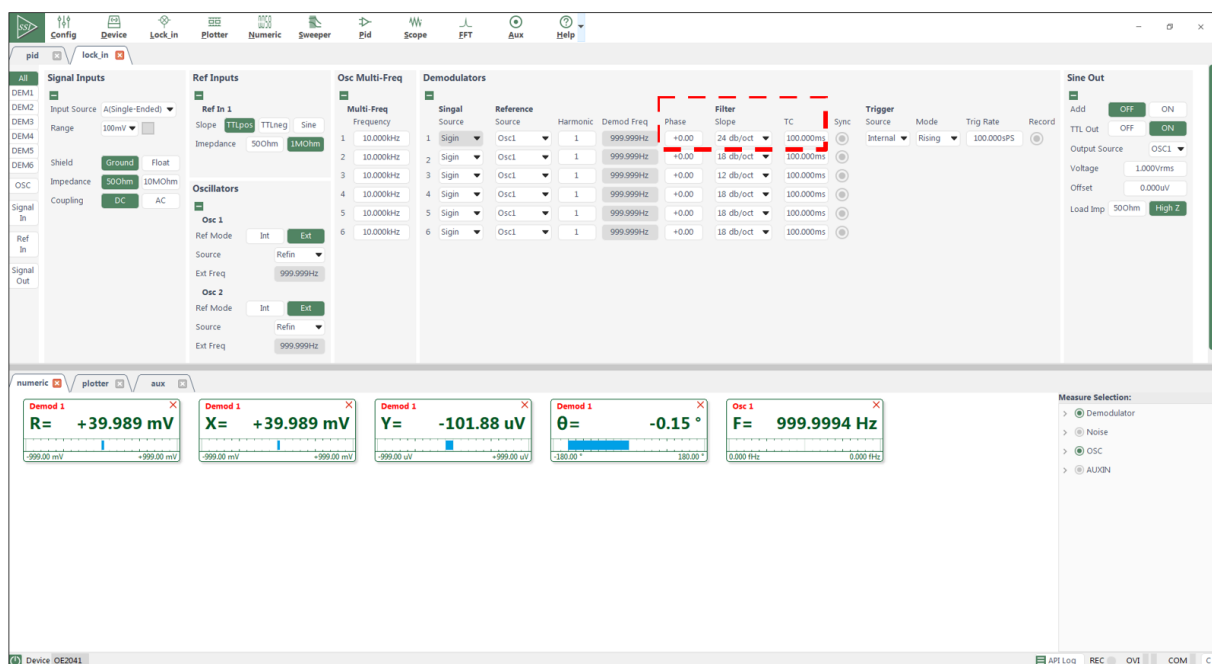
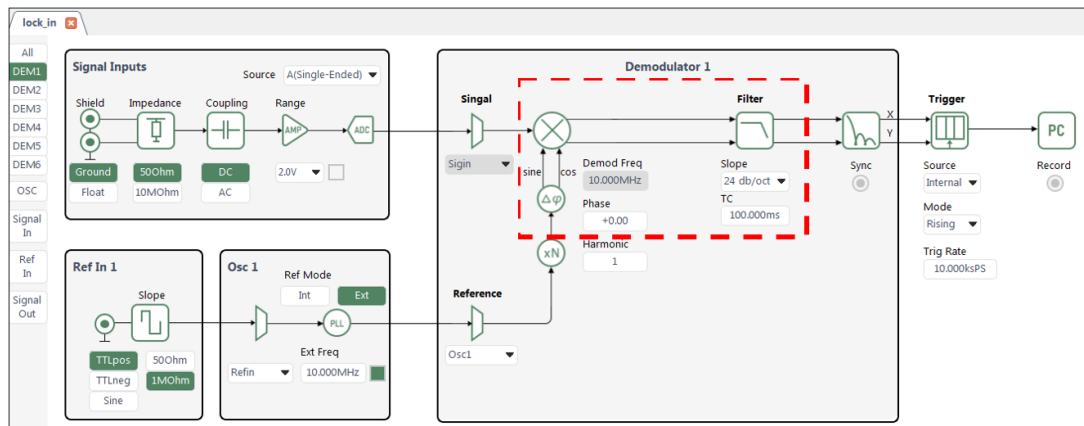

Figure 35. Filter Configuration
Figure 36. Filter Configuration Area in the Flow Diagram
3. According to Table 2, select the demodulator time constant, filter roll-off, and phase adjustment value in the filter configuration area. Keep the other options at their default values. As shown in Figure 35 and Figure 36, select either method to make the changes and complete the configuration.